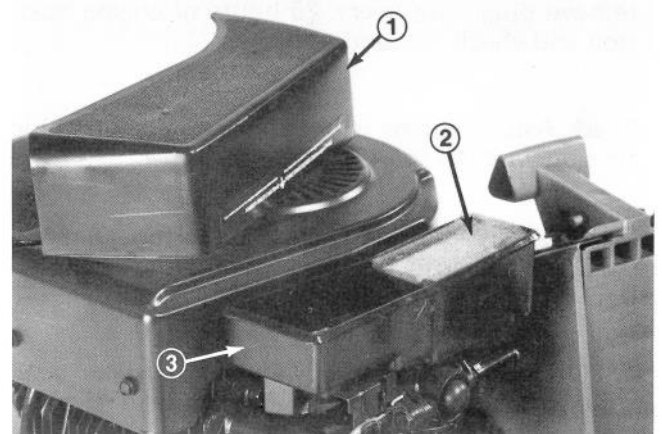

Figure 29
3. Look at bottom of air cleaner element (Fig. 29). If it is dirty, the element must be cleaned.
**Note:** Take care not to allow dirt to enter air cleaner body (Fig. 29).
- D. Place element into the air cleaner body (Fig. 29).